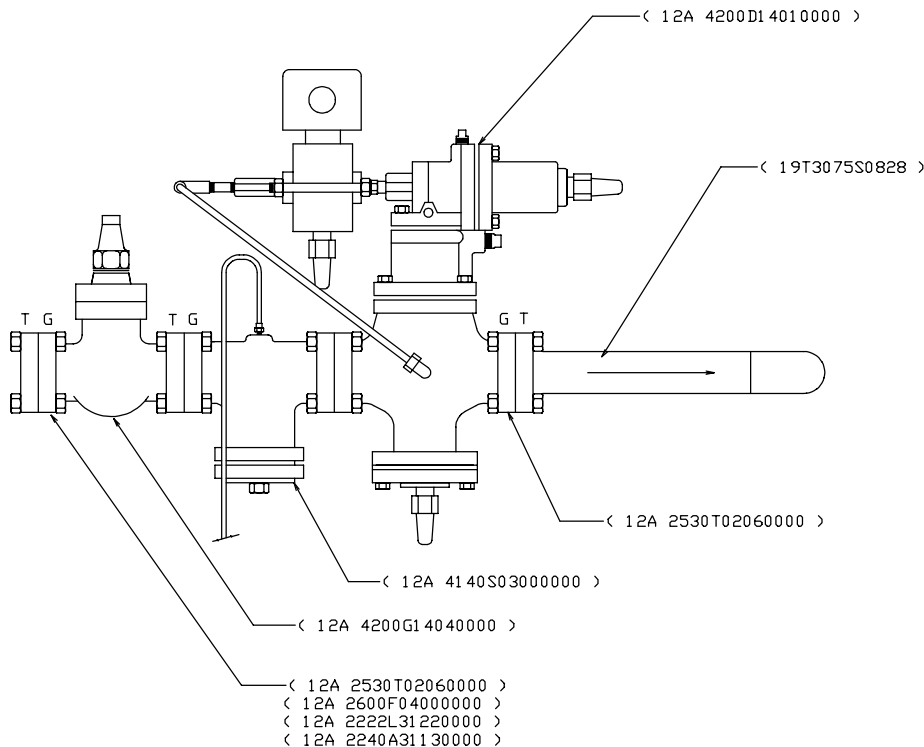

FIGURE 9-3
The Thaw Gas Solenoid Valve (18), Figure 9-3, is opened during the thaw cycle to allow warm gas to pass from the receiver to the freezer. Repair or replace as follows: